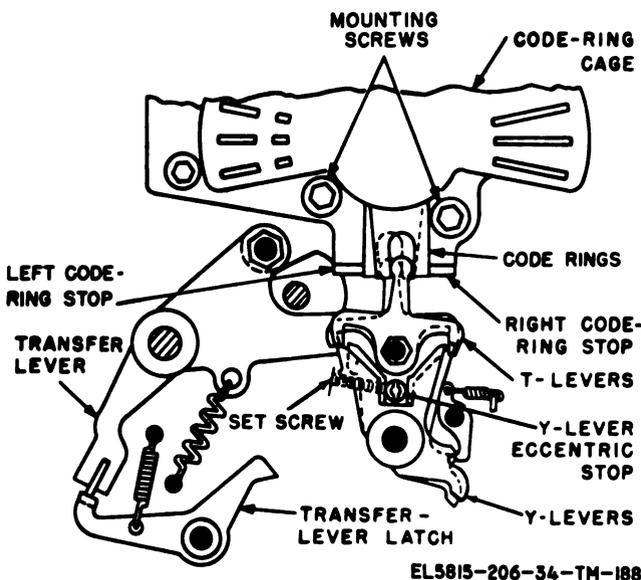

Figure 3-116. Y-lever eccentric stop preliminary adjustment.
b. Adjustment. Loosen the two mounting screws that secure the code-ring cage to the side casting (fig. 3-116). Turn the code-ring cage either clockwise or counterclockwise until the requirements in *a* above are met. Tighten the screws. Check related adjustments (para 3-142, 3-149, 3-150, and 3-209).
3-149. Y-lever Eccentric Stop Preliminary Adjustment. (fig. 3-116)